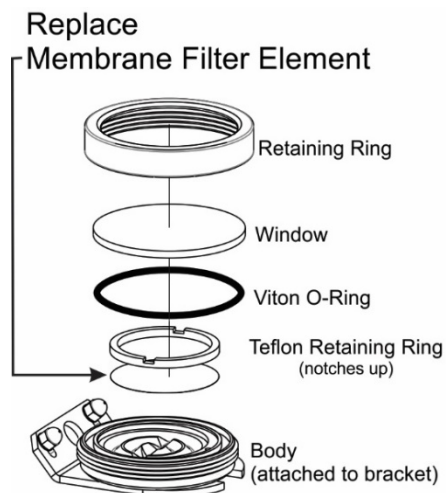

Figure 5-5. Replacing the Particulate Filter Option's Membrane Filter Element
2. Open the hinged rear panel and unscrew the Retaining Ring on the filter assembly (Figure 5-5).